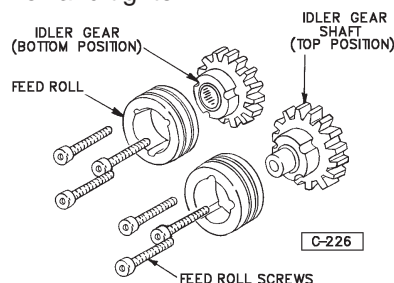

Figure 4-1
- 3A. Install proper feed roll onto the drive gear (bottom gear on the assembly). Insert three feed roll screws and tighten (See Figure 4-1).
- 3B. Install the two lower feed rolls onto the idler gears (see Figure 4-1). Insert three feed roll screws in each roll and tighten.